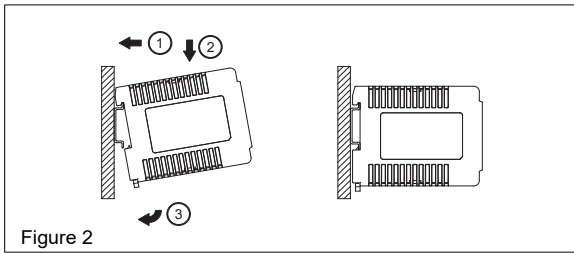

Figure 2
**3. Mounting (Fig. 2)**
Snap on the DIN rail as shown in Fig. 2: